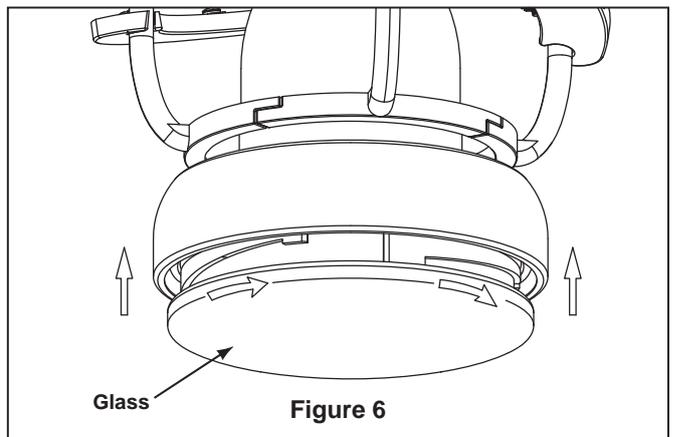

Figure 6
6. Securely attach glass by twisting clockwise onto the socket plate assembly. Don't overtighten or force it. (Figure 6)
- 6.** Secure the motor assembly onto the ceiling bracket assembly using the four screws that was previously removed. (Figure 6)